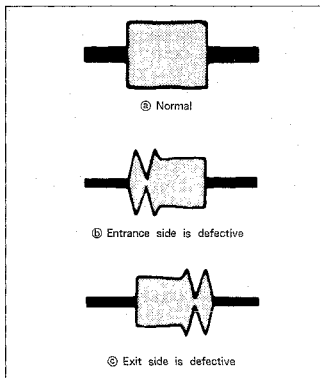

Fig. 7-65.
- 3) Set the SEL switch of the track shift jig to OFF, then playback the alignment tape (WR5-1C) for tracking, and confirm that the RF waveform of both the entrance and exit sides become flat (Fig. 7-65. Ⓐ).
- In case the RF waveform on the entrance side is not flat (Fig. 7-65. Ⓑ)
- In case the RF waveform on the exit side is not flat (Fig. 7-65. Ⓒ)